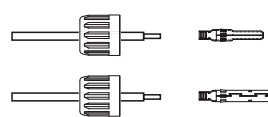

Figure 3.19 Insert the Wire into the Connector Cap nut and contact pin
2. Insert the wire into the connector cap nut and contact pin. (see Figure 3.19)